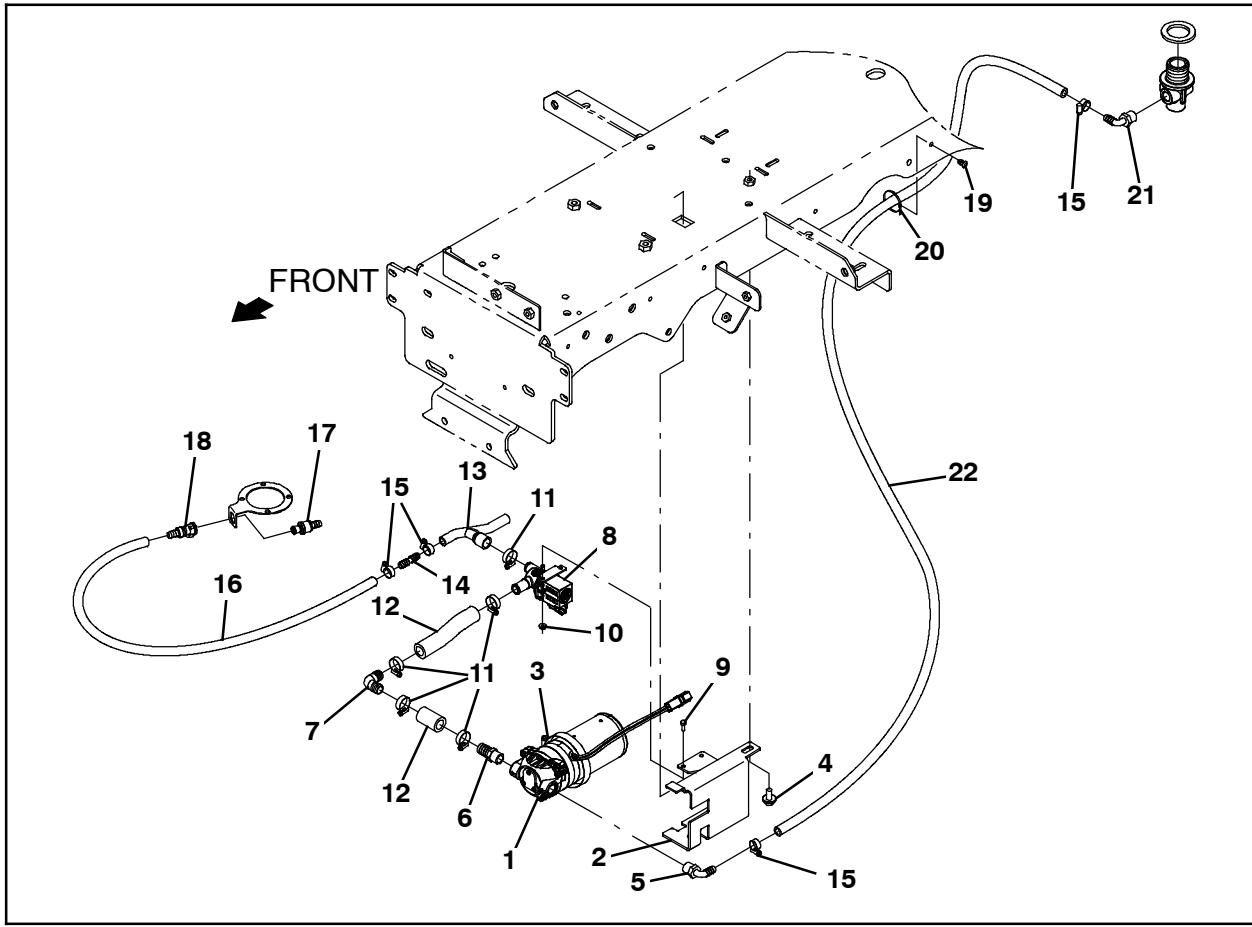
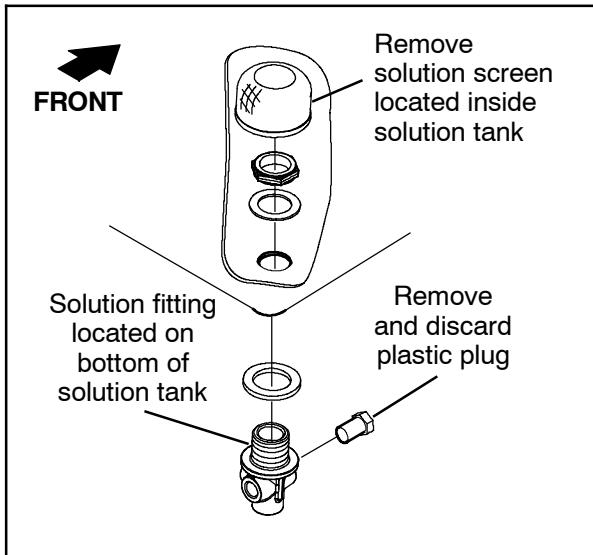

FIG. 6
FIG. 7
11. Install plastic straight fitting (6) and a 90° plastic fitting (5) into the solution pump (1). (Fig. 6)
12. Use a hose clamp (3) to install the solution pump bracket (2) onto the solution pump (1). (Fig. 6)
13. Use two M5 hex screws (9) and two M5 flange hex nuts (10) to install the water solenoid valve (8) onto the solution pump bracket (2). (Fig. 6)
14. Use hose clamps (11) to connect the two 12" PVC hoses (12) to the 90° plastic fitting (7). (Fig. 6)
15. Use hose clamps (11) to connect the items assembled in the previous step to the water solenoid valve (8) and the plastic straight fitting (6) in the solution pump (1). (Fig. 7)
16. Install the plastic straight fitting (14) into the side brush solution manifold (13) and use a hose clamp (15) to secure the fitting inside the manifold. (Fig. 6)
17. Use a hose clamp (11) to install the side brush solution manifold (13) onto the water solenoid valve (8). (Fig. 6)
18. Use a hose clamp (15) to install the 36" PVC hose (16) onto the plastic straight fitting (14) in the side brush solution manifold (13). (Fig. 6)
19. Install the plastic straight fitting (18) into the 36" PVC hose (16). (Fig. 6)
20. Insert the solution pump bracket (2) tab into square hole in frame of machine and use one SEMS M8 hex screw (4) to secure the solution pump bracket / solution pump (1) onto the frame of the machine. (Fig. 6)
21. Remove filter screen located inside the solution tank from the solution fitting. (Fig. 7)
22. Remove the solution fitting from the bottom of the solution tank. (Fig. 7)
23. Remove the plastic plug from the solution fitting. Discard the plastic plug. (Fig. 7)
24. Install the 90° plastic fitting (21) onto the solution fitting. (Fig. 6)
25. Reinstall the solution fitting onto the bottom of the solution tank. (Fig. 6 / Fig. 7)
26. Reinstall the filter screen into the solution tank. (Fig. 7)
27. Use a hose clamp (15) to connect the 96" PVC hose (22) to the 90° plastic fitting (21) on the solution fitting. (Fig. 6)
28. Route the 96" PVC hose (22) to the solution pump (1) and use a hose clamp (15) to connect the 96" PVC hose to the 90° plastic fitting (5) in the solution pump (1). (Fig. 6)
29. Route the 96" PVC hose (22) to the solution pump (1) and use a hose clamp (15) to connect the 96" PVC hose to the 90° plastic fitting (5) in the solution pump (1). (Fig. 6)
30. Route the 36" PVC hose (16) connected to the water solenoid valve (8) assembly to the side brush assembly and connect the 36" PVC hose to the plastic straight fitting (17) installed on the side brush assembly. (Fig. 6)